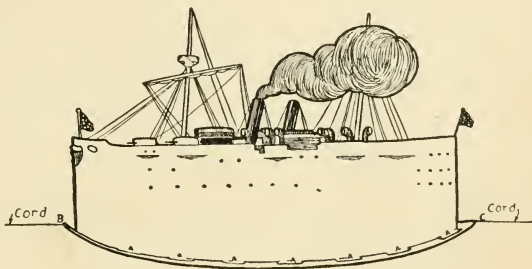

FIG. 353. — A Battleship.
**Battleships** should be made out of cardboard as shown in Fig. 353, with the masts reënforced at the back with strips of wood, and the rigging made with heavy thread. It will be well to have a number of pictures from which to work in drawing and painting the various ships of your fleet. The hull of each ship should be curved as